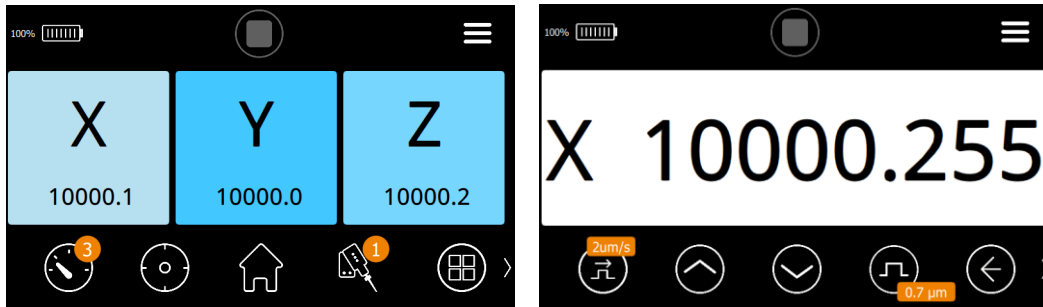

Figure 11. Stepping mode.
- Stepping mode (Fig. 11.) enables taking incremental steps of specific amplitude or speed.